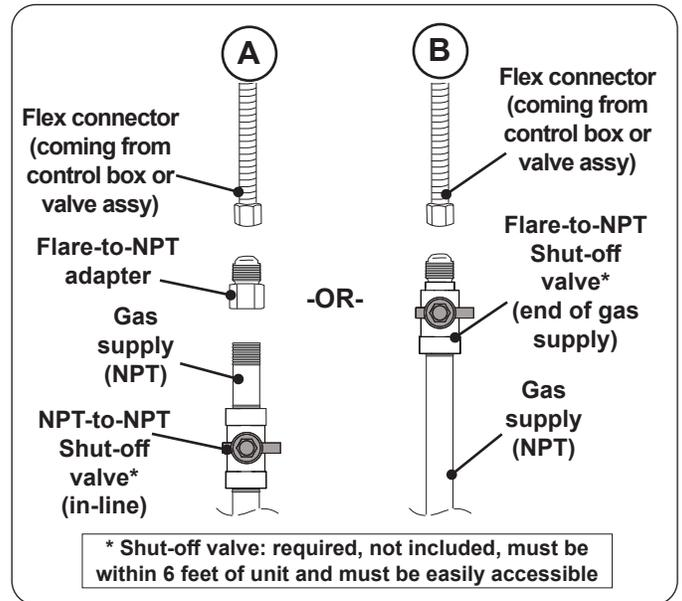

Fig. 39-1 Connecting to a gas line
- Install the supplied flare-to-NPT adapter to the gas supply (NPT) using a pipe joint compound resistant to all gasses (see Fig. 39-1, A). Tighten securely.
- Connect the flex connector to the adapter (see Fig. 39-1, A). Tighten securely.
- Connect the flex connector to the shut-off valve (flare)(see Fig. 39-1, B). Tighten securely.